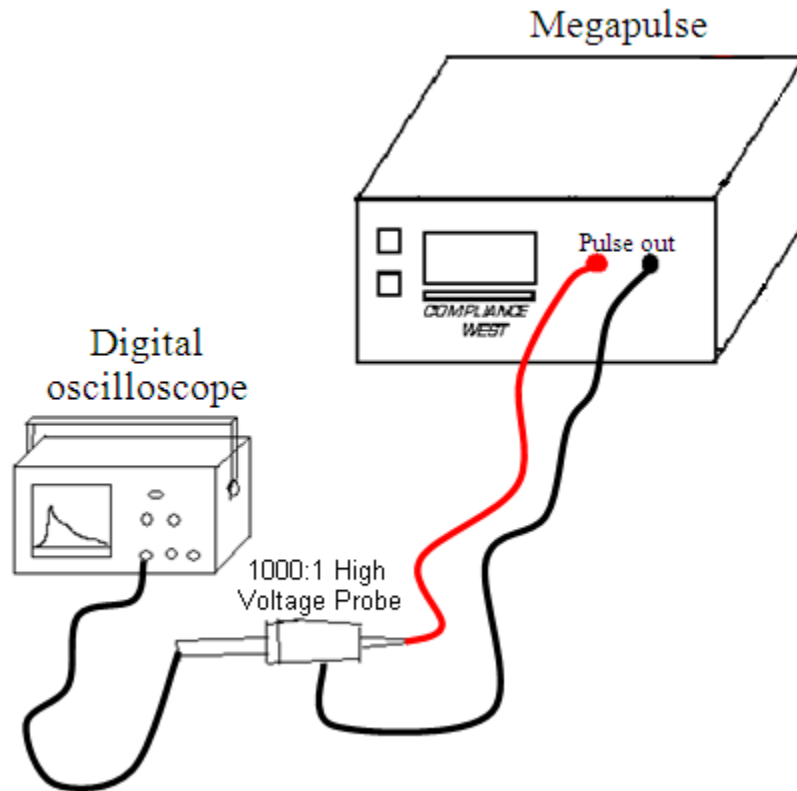

Figure 3: Waveform Measurement Setup
The DF-80PF DSW tester consists of two parts; the pulse generation portion and the measurement portion. Please refer to the general electric circuit shown in Figure 3 to show the function of the DF-80PF.
3. Set the front panel switches depending the type of test need it. Follow the front panel directions or see Figure 3 for the electrical diagram.